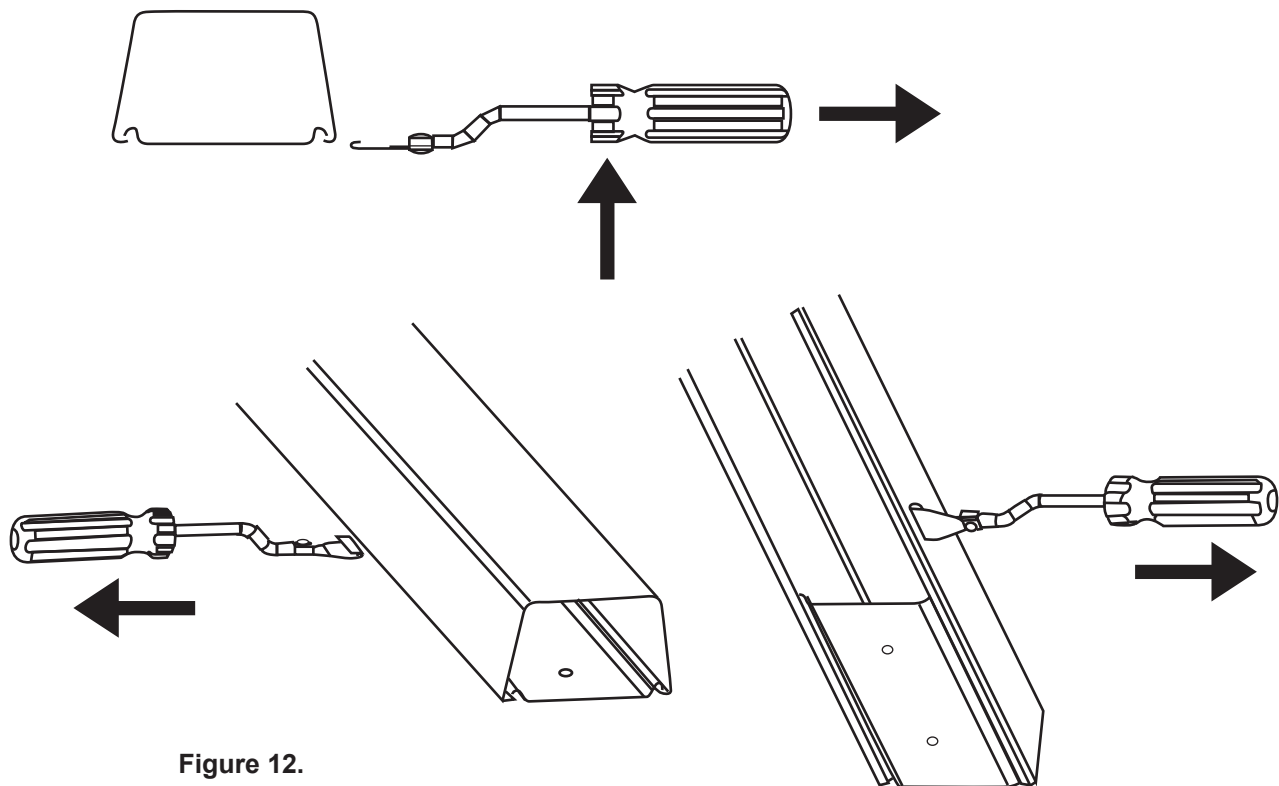

Figure 12.
- Since the clips are spaced 4 feet apart, slide entry key under the molding in a non-clip area and grab onto the underneath flange of the molding. (Figure 12)